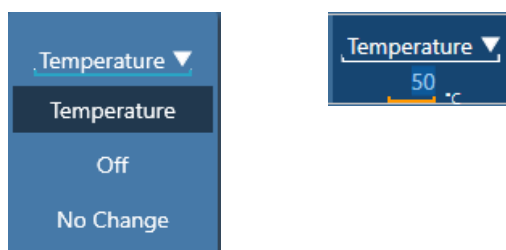

Figure 5-22 Change a field value
- 15 Click on any field in the process step to change the value. Enter a new value and press <return>, or click the arrow to access the drop-down list (see the example in Figure 5-22).